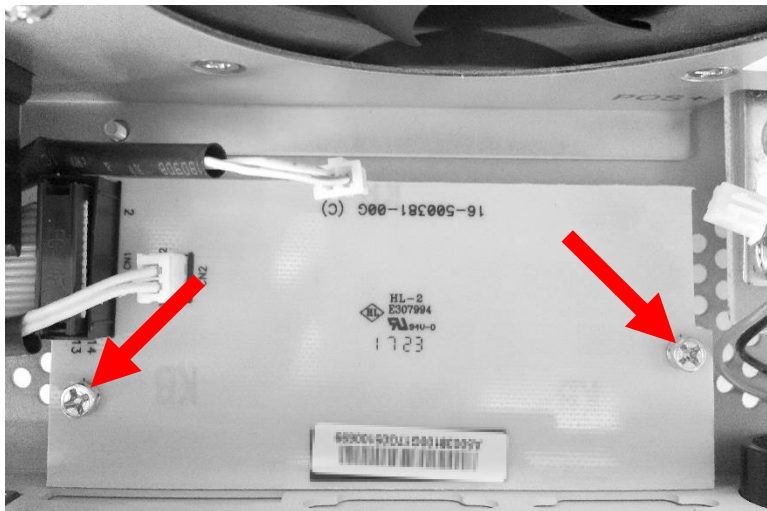

Figure 4: Remove screws on beige board
4. Undo the two screws and washers of the beige board as shown in Fig. 4. They will be required later. Do not remove the board yet as it is still connected to two cables.